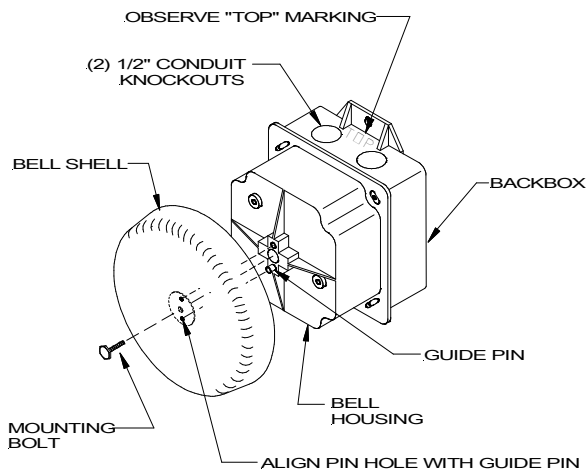

Figure 1: Removal of Bell Shell
1. Modular connection - Figures 1 & 2: